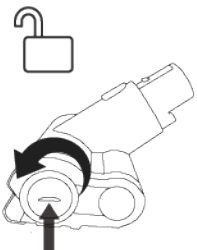

Figure 21
2. Release the Sidekick Roller Brush by turning the lock on the side to the left with a flat head screwdriver. (Figure 21)